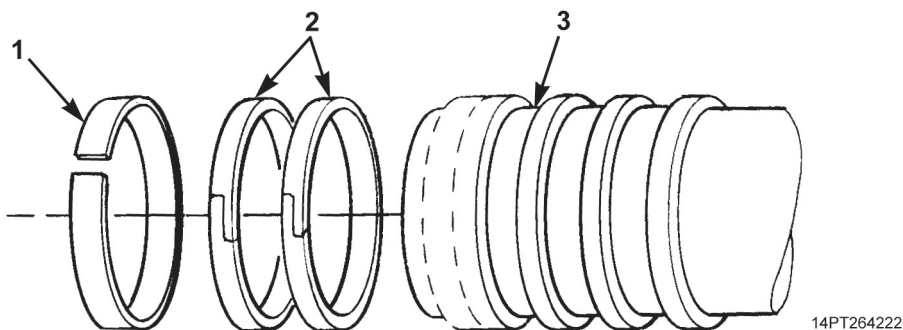

Figure 18. Wear Ring and Piston Ring Removal.
26. Remove wear ring (Figure 18, Item 1) and two piston rings (Figure 18, Item 2) from other end of sleeve (Figure 18, Item 3). Discard wear ring.